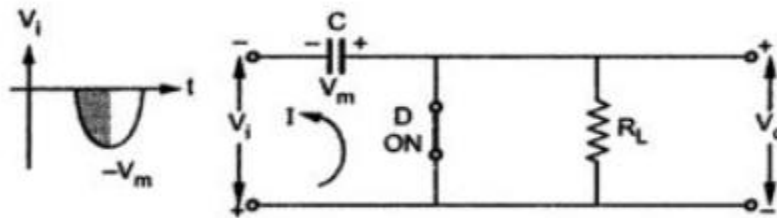

Fig.1.68 Operation of Positive clamper during first quarter of negative half cycle
- During the first quarter of negative half cycle of the input voltage V_i , diode D gets forward biased and almost instantaneously capacitor gets charged equal to the maximum value V_m of the input signal V_i with the polarities as shown in the Fig. 1.68.
- The capacitor once charged to V_m , acts as a battery of voltage V_m with the polarities as shown in the Fig. 1.68.